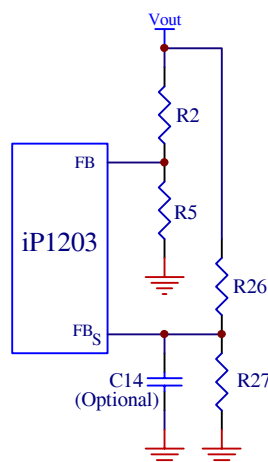

Fig. 14: Typical Scheme for Output Voltage Setting
The output of the iP1203 will shut down if it experiences a voltage in the range of 115% of V_{OUT} . The overvoltage sense pin FB_S is connected to the output through voltage dividers, R26 and R27 (Fig. 14), and the trip setpoint is programmed according to equation (1). A separate overvoltage sense pin FB_S is provided to protect the power supply output if for some reason the main feedback loop is lost (for instance, loss of feedback resistors). An optional 100pF capacitor (C14) is used for delay and filtering.
When selecting output capacitors, it is important to consider the overshoot performance of the power supply. If the amount of capacitance is not adequate, then, when unloading the output, the magnitude of the overshoot due to stored inductor energy, and depending on the speed of the response of the control loop, can exceed the overvoltage trip threshold of the iP1203 and can cause undesirable shutdown of the output. The magnitude of the overshoot should be kept below 1.125V_{OUT}. To prevent the overshoot from tripping the output a delay can be added by installing capacitor C14 as shown in Fig.14.